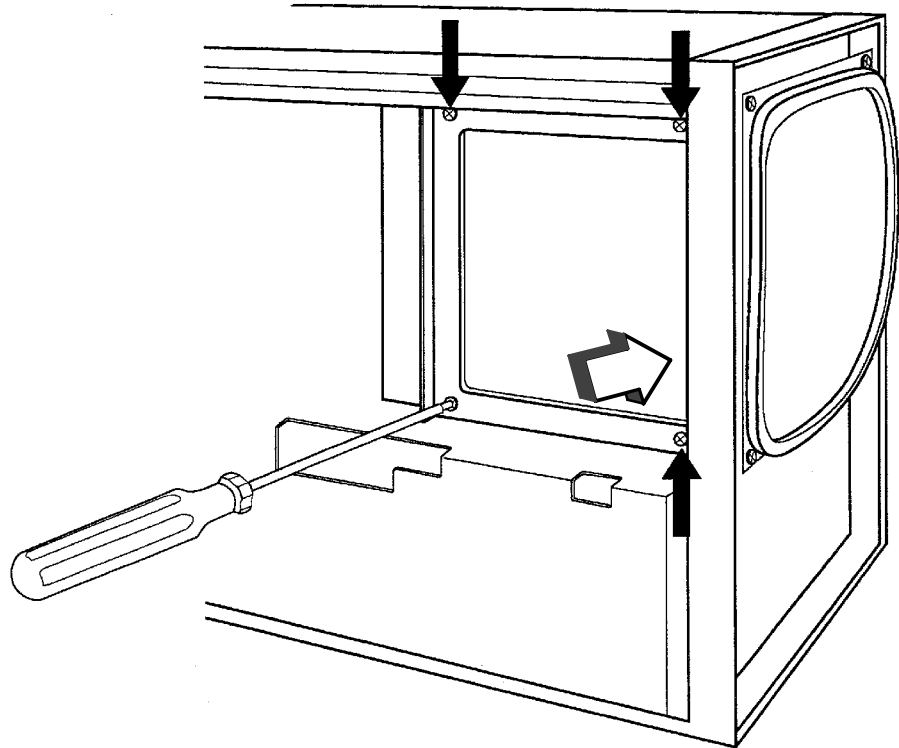

Figure 2: Bottom view showing monitor attaching screws and approximate location of bezel attaching screw
3. Position the instrument as shown in Figure 2.
1. Remove the four screws that attach the display subassembly to the instrument chassis. Black arrows in Figure 2 show the screw locations.
3. Remove the bezel attaching screw in the location indicated by the larger arrow in Figure 2. (The screw is located behind the front panel.) Do not remove the other three bezel attaching screws at this time.